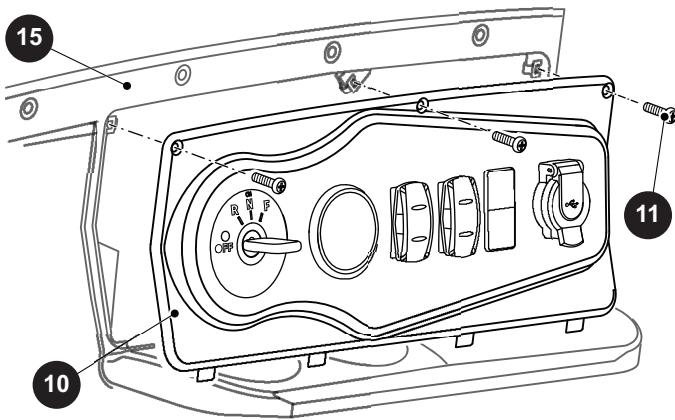

Fig. 7 Control Panel
1. Remove the screws (11) securing the top of the control panel (10) to the instrument panel (15) (Ref Fig. 7).